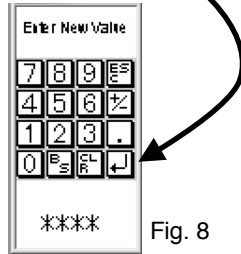

Fig. 8
- A keypad will then display for entering the new preset (Fig. 8). Enter the desired value and touch the ENTER (bent arrow) key to set the value. Press ESC to cancel and go back to the preset list.